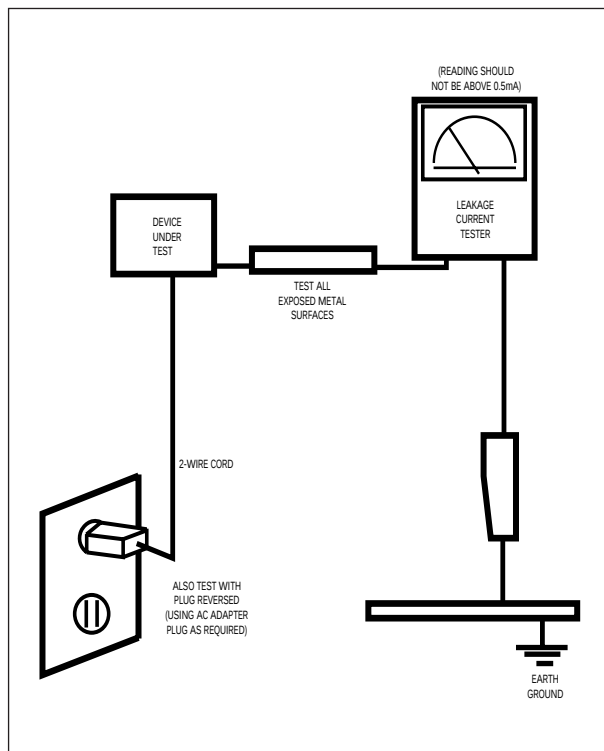

Figure1-1. Leakage Current Test Circuit
3. Leakage Current Hot Check (Figure 1-1):